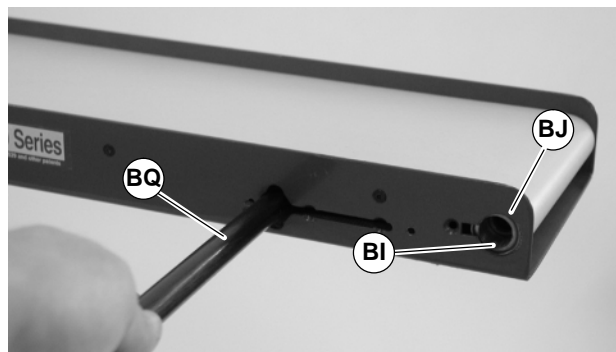

Figure 49
3. Using pulley installation tool (BQ of Figure 49) as a lever, align pulley bore (BI) with hole (BJ) in conveyor frame.